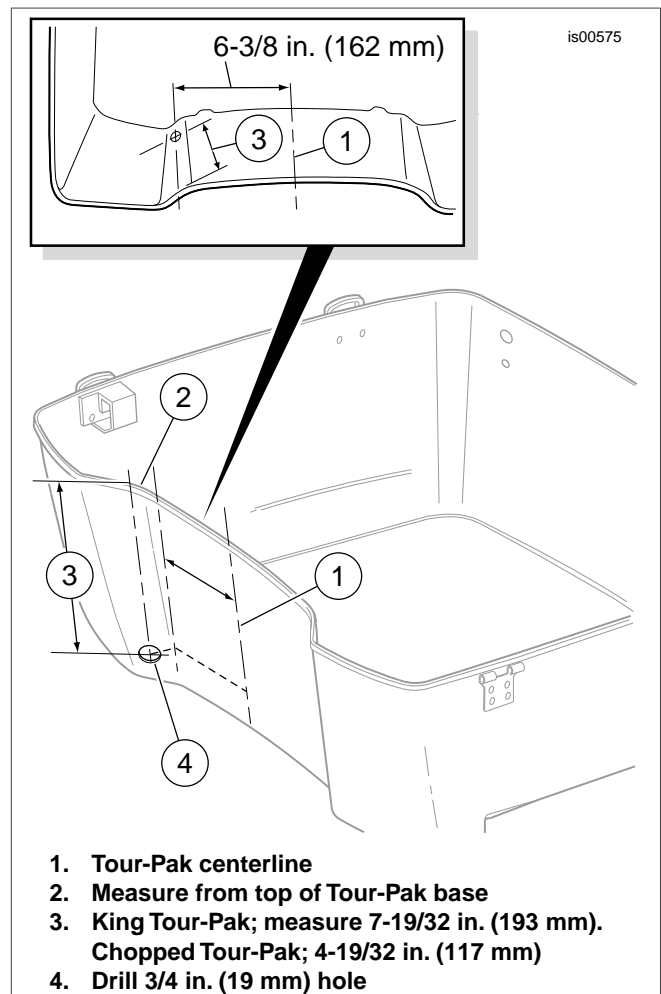

Figure 3. CB Antenna Cable Drilling Location (Type 2 Tour-Pak)
- See Figure 3. Measure and determine the center (1) of the inside front Tour-Pak wall.
- Facing the tape, measure 6-3/8 in. (162 mm) from the center line to the right side front Tour-Pak wall. Do not follow the curve of the wall, but measure **straight across**. See Figure 3 inset.